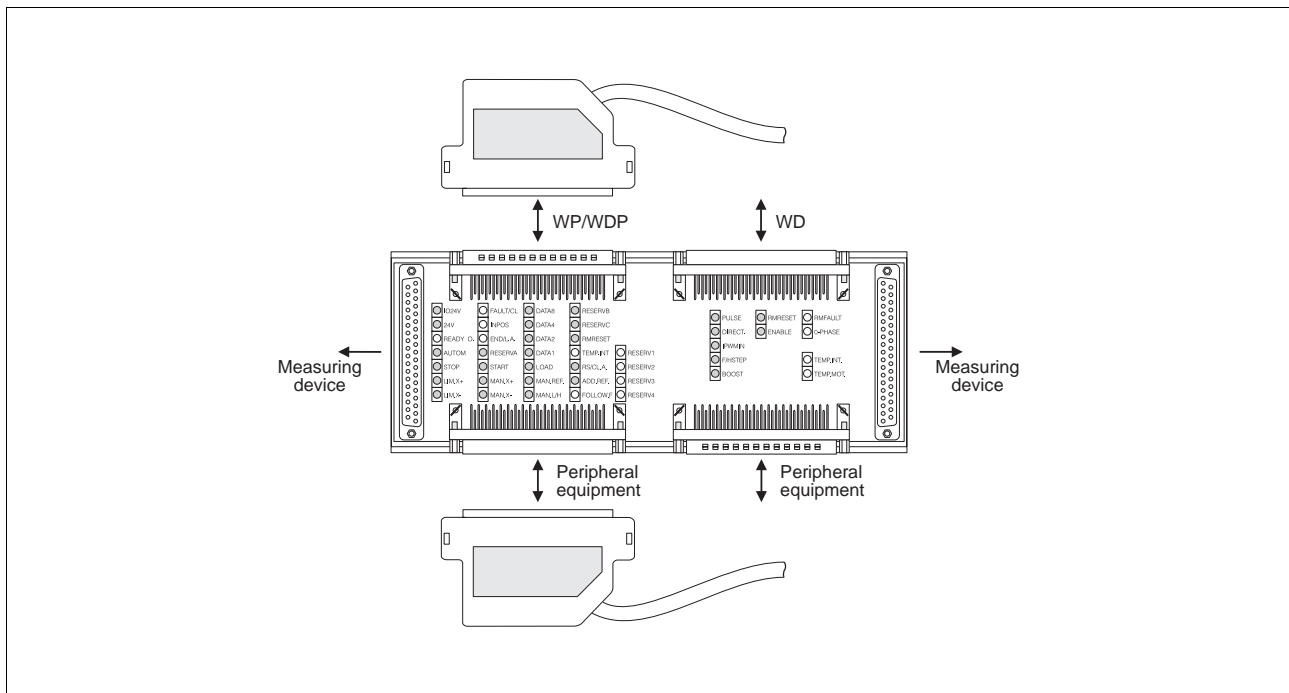

Fig. 6-19 Starting the D 690 interface tester
2. Connect the D 690 interface tester between the WP/WDP or WD unit and the peripheral equipment with the cable, see fig. 6-19.